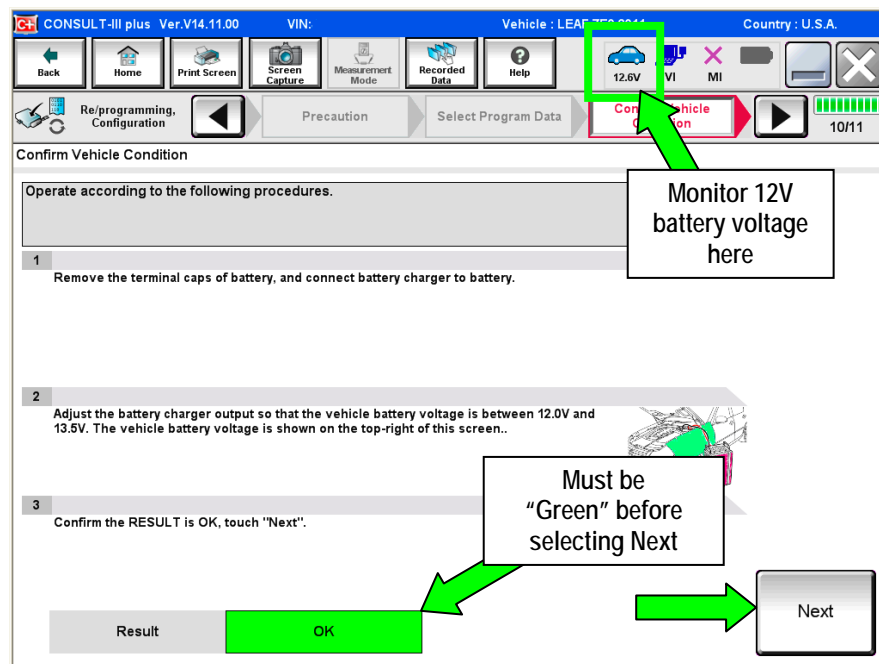

Figure 13
- If no Saved Data List is stored, Figure 13 on the next page will be displayed. Proceed to step 18.